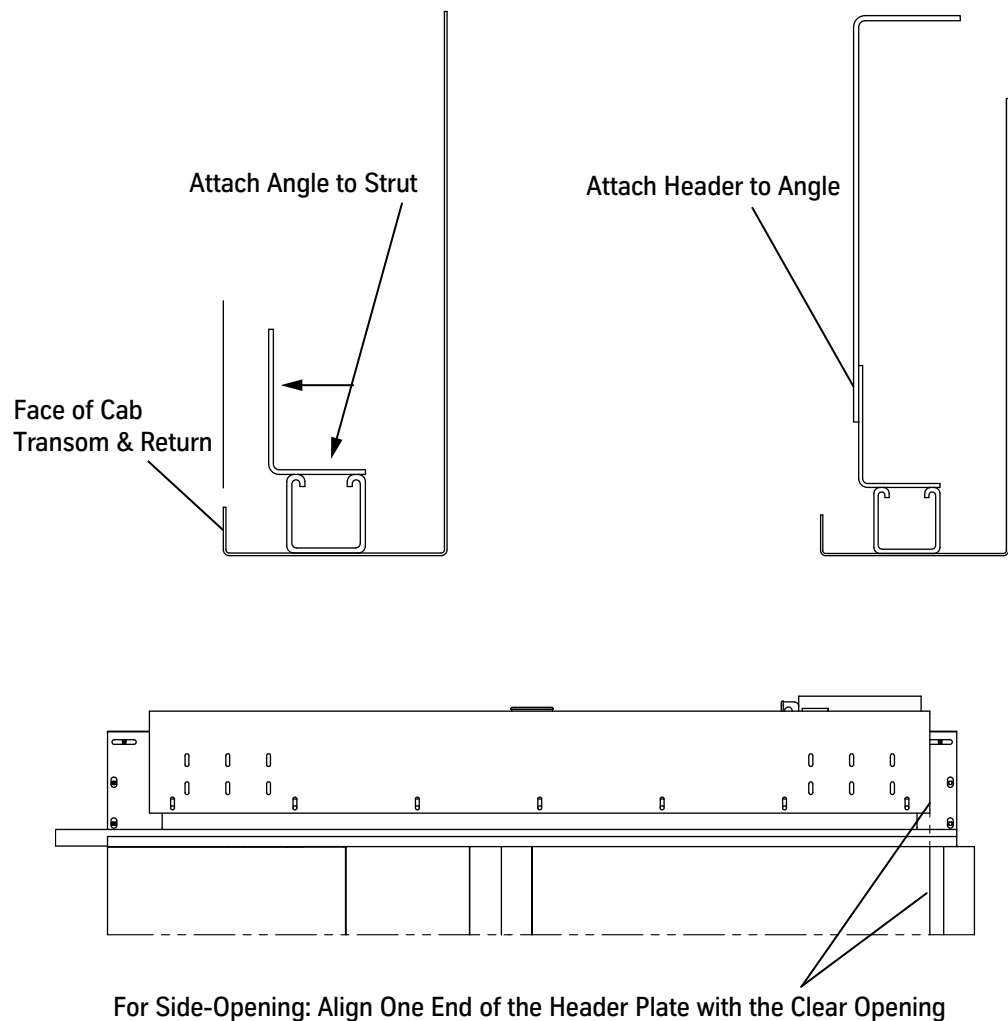

Figure 25 - Mounting Angles and Header Installation
3. Use the included hardware to install the door operator mounting angles to the strut. See Figure 25 on page 34.
4. Use the included hardware to install the door operator header to the mounting angle. See Figure 25 on page 34.